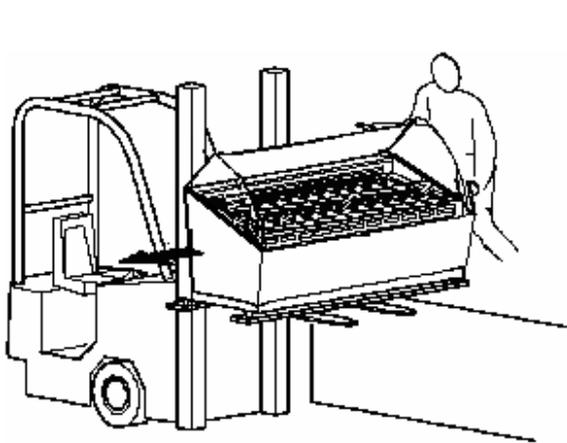

fig. 3
- Ensuring that the forks are completely under the entire display cabinet and centered from side to side on the cabinet (see fig.3 below). You are now ready to lift off of the pallet.